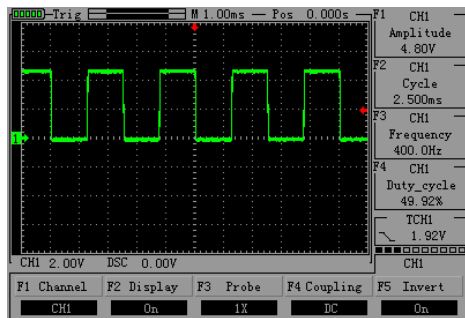

Figure 2-9
- If you set the vertical direction 2.00V/div, probe is set to 1 x gear as an example, Press "" to adjust the vertical v/case, at the same time can press "" to move the entire waveform up, down. As shown in figure 2-9